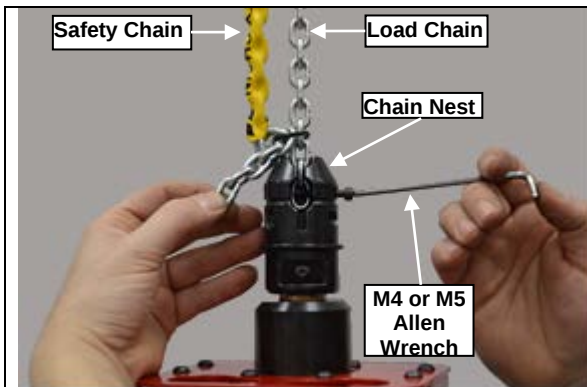

Figure 2-10
- 2) Place the load chain into the top portion of the chain nest and insert the bolt provided thru chain nest in front of load chain's last link. A M4 allen wrench is required if the servo's capacity is 250 or 500lbs. Otherwise both M4 and M5 allen wrenches will be required. (Refer to Figure 2-10)